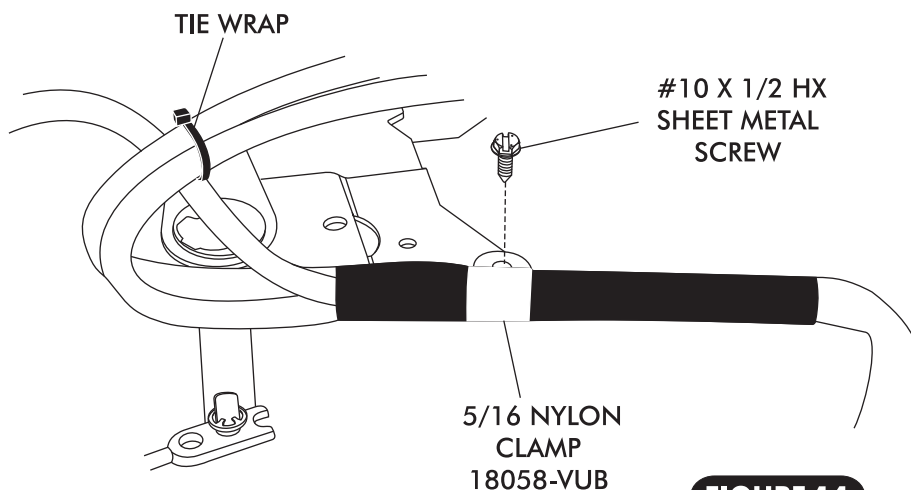

FIGURE 14
- SECURE THE WIRING HARNESS TO THE CONTROL PANEL USING A 5/16 NYLON CLAMP AND #10 X 1/2 HX SHEET METAL SCREW. SEE FIGURE 14 BELOW.
- USING THE SUPPLIED TIE-WRAPPS, TIE THE WIRES AND THE UNUSED WIRE TO THE CONTROL PANEL AS SHOWN IN FIGURE 14 BELOW. CONFIRM THAT WIRES ARE SECURE AND DO NOT INTERFERE WITH LEVER OPERATION OR SLIDE POT ASSEMBLY.